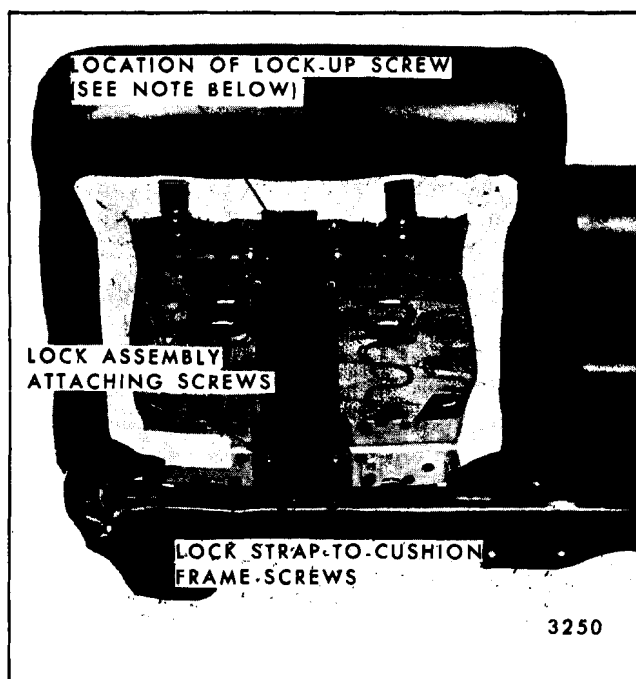

Fig. 14-48-Strato Seat Back Lock Assembly
IMPORTANT: If removing and reinstalling same lock or actuator assembly, install lock-up screw (8-32 x 1/2" screw) at location shown in Figure 14-48.
2. Remove lock strap-to-cushion frame attaching screws (Fig. 14-48).
3. Remove lock or actuator assembly attaching screws and remove assembly from seat back (Fig. 14-48).
IMPORTANT: After all lock or actuator assembly attaching screws, including lock strap-to-cushion frame screws, have been tightened, REMOVE lock-up screw at location shown in Figure 14-48.